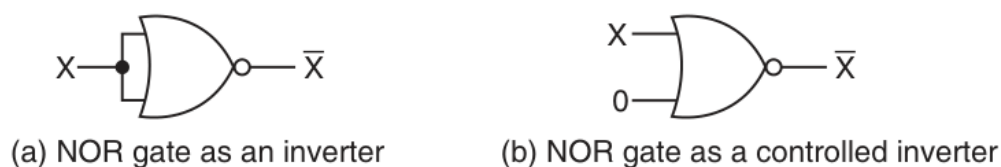

Figure 4.17 NOR gate as an inverter.
- **Realization of NOT using NOR (Kumar, Figure 4.17):**